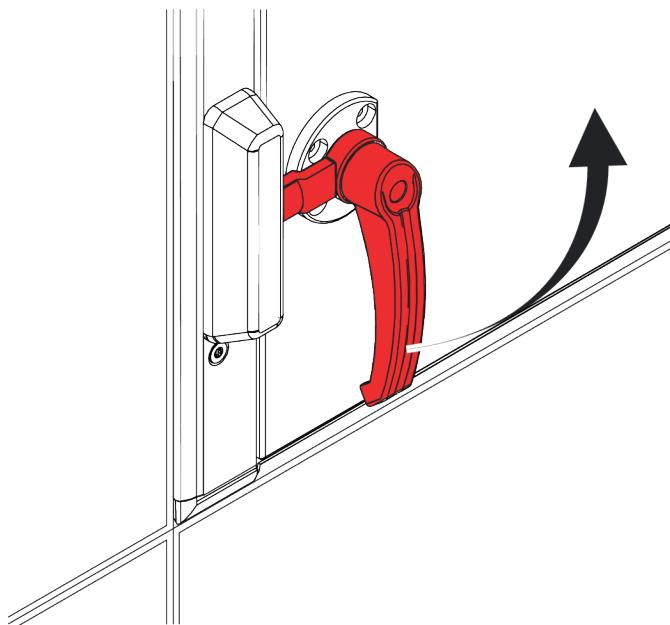

Fig. 16: Opening the door lock
1. ▶ Turn the door handle 90° anticlockwise (Fig. 16).